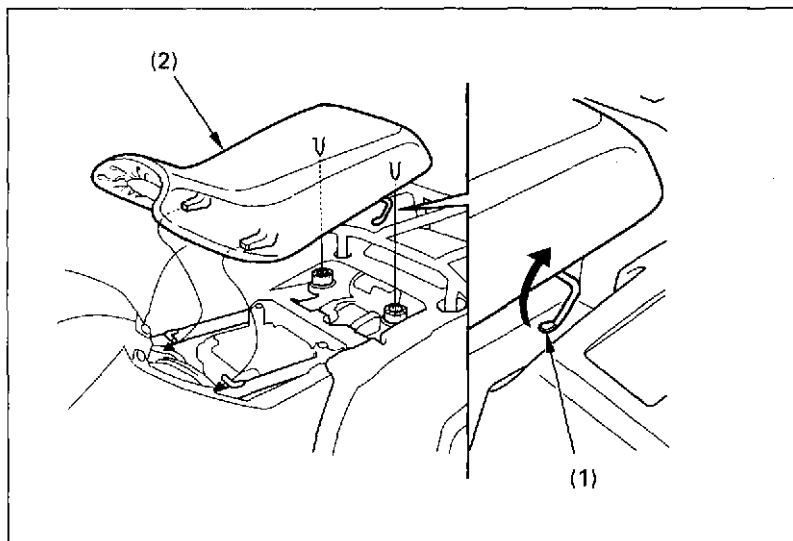

Fig. 4-33 (1) Seat lock lever
To remove the seat (Fig. 4-33), pull up the seat lock lever (1) at the left side of the seat lift it up.